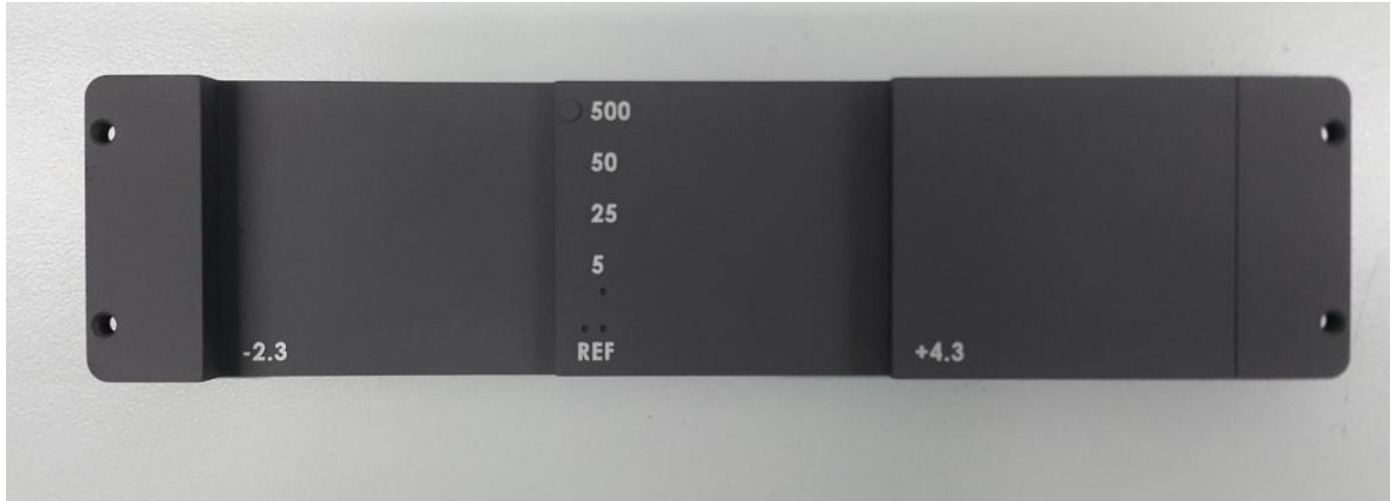
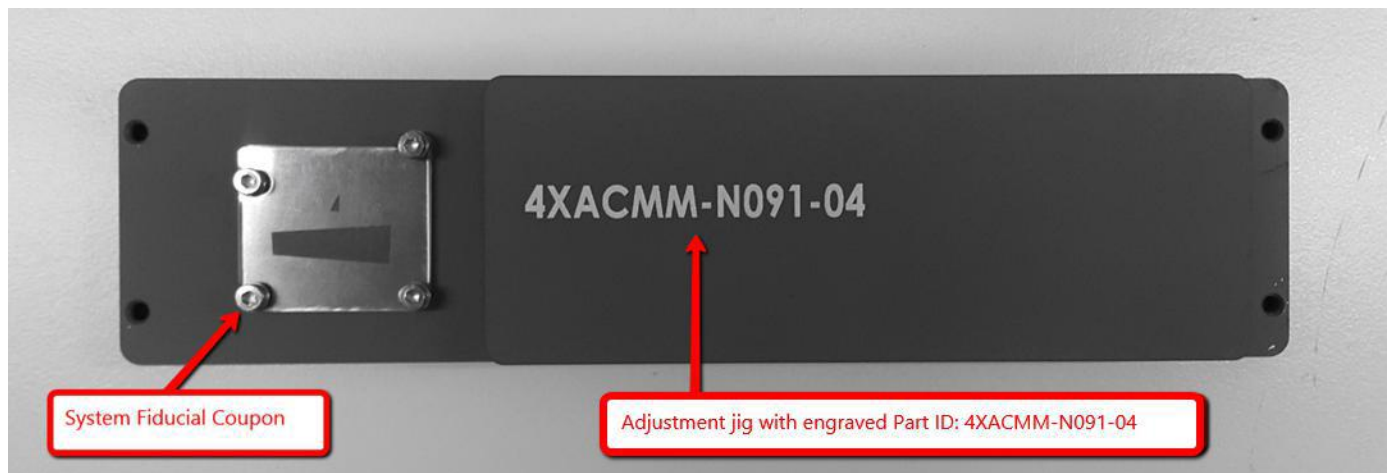

Figure 1 Top View of the On Rail Jig (Latest version)
Figure 2 Bottom View of the On Rail Jig (Latest version)
3. If particular machine is within “On Rail Jig Adjustment method”, will require visual check at On rail jig .May to Figure 1 and Figure 2 for further reference.